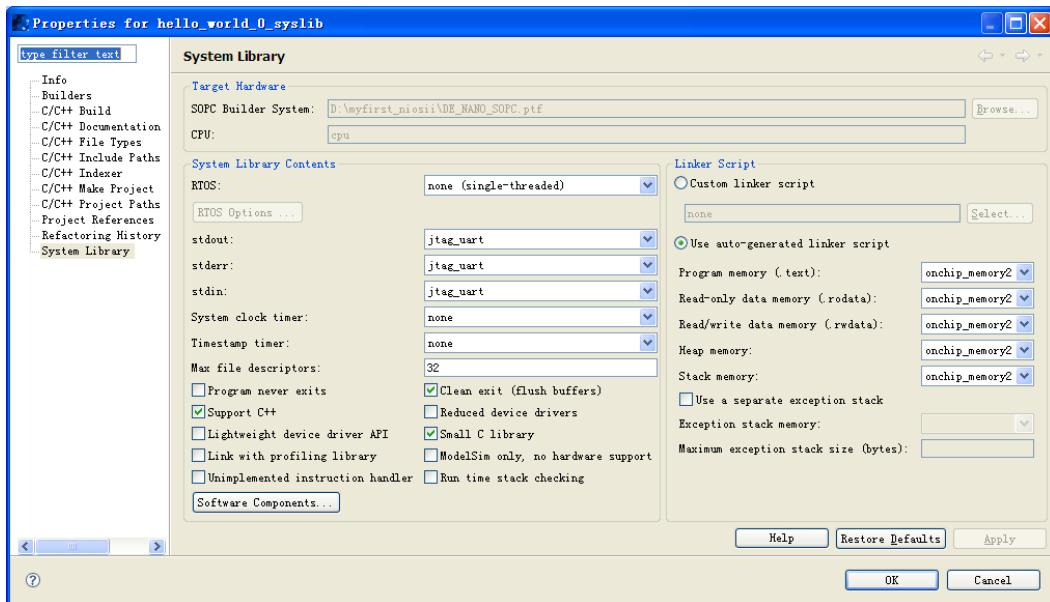

Figure 7-59 Configuring System Library Properties
3. In the **Linker Script** box, observe which memory has been assigned for **Program memory(.text)**, **Read-only data memory(.rodata)**, **Read/write data memory(.rwdta)**, **Heap memory**, and **Stack memory**, see Figure 7-59. These settings determine which memory is used to store the compiled executable program. You can also specify which interface you want to use for `stdio` , `stdin`, and `stderr`. You can also add and configure an RTOS for your application and configure build options to support C++, reduced device drivers, etc.
4. Select **onchip_memory2** for all the memory options in the **Linker Script** box, as shown in **Figure 7-59**.